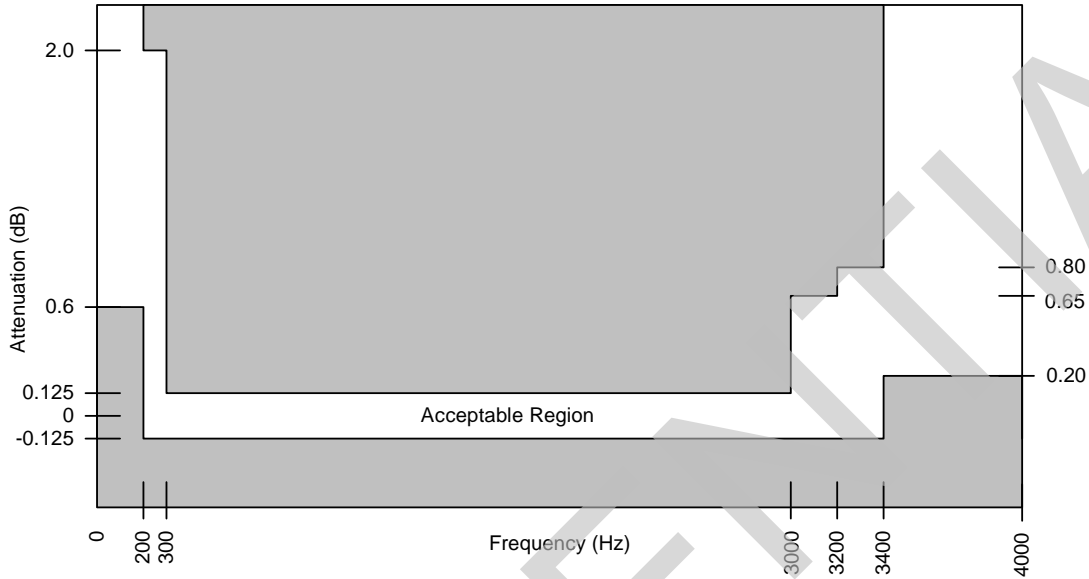
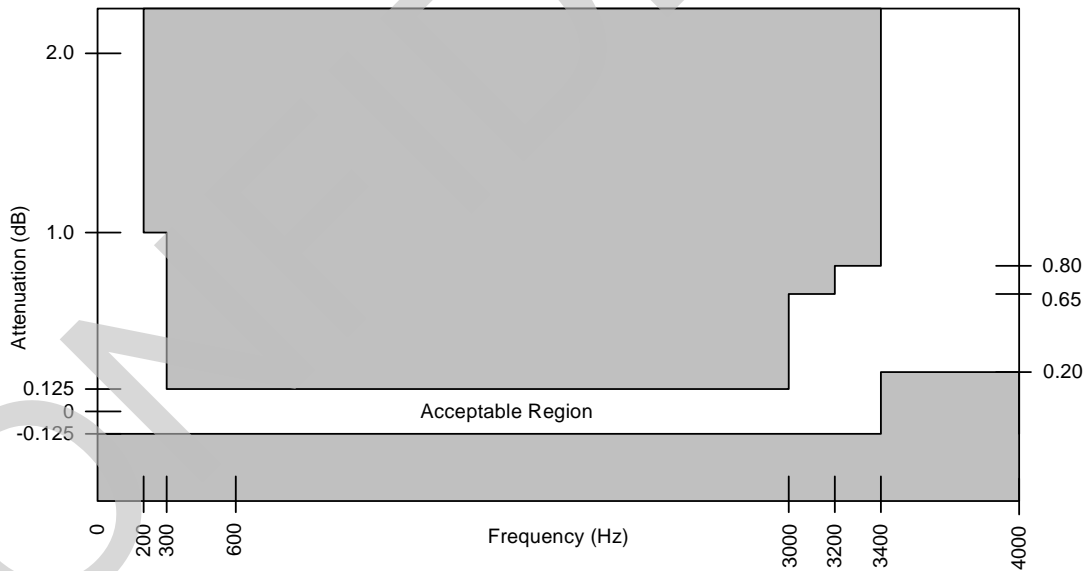

Figure 20 - Transmit (A to D) Path Attenuation vs. Frequency
Figure 21 - Receive (D to A) Path Attenuation vs. Frequency
3. See Figure 20, "Transmit \(A to D\) Path Attenuation vs. Frequency" on page 38 and Figure 21, "Receive \(D to A\) Path Attenuation vs. Frequency" on page 38.
The signal attenuation in either path is nominally independent of the frequency. The deviations from nominal attenuation will stay within the limits shown in Figure 20 and Figure 21. The reference frequency is 1014 Hz and the signal level is -10 dBm0.